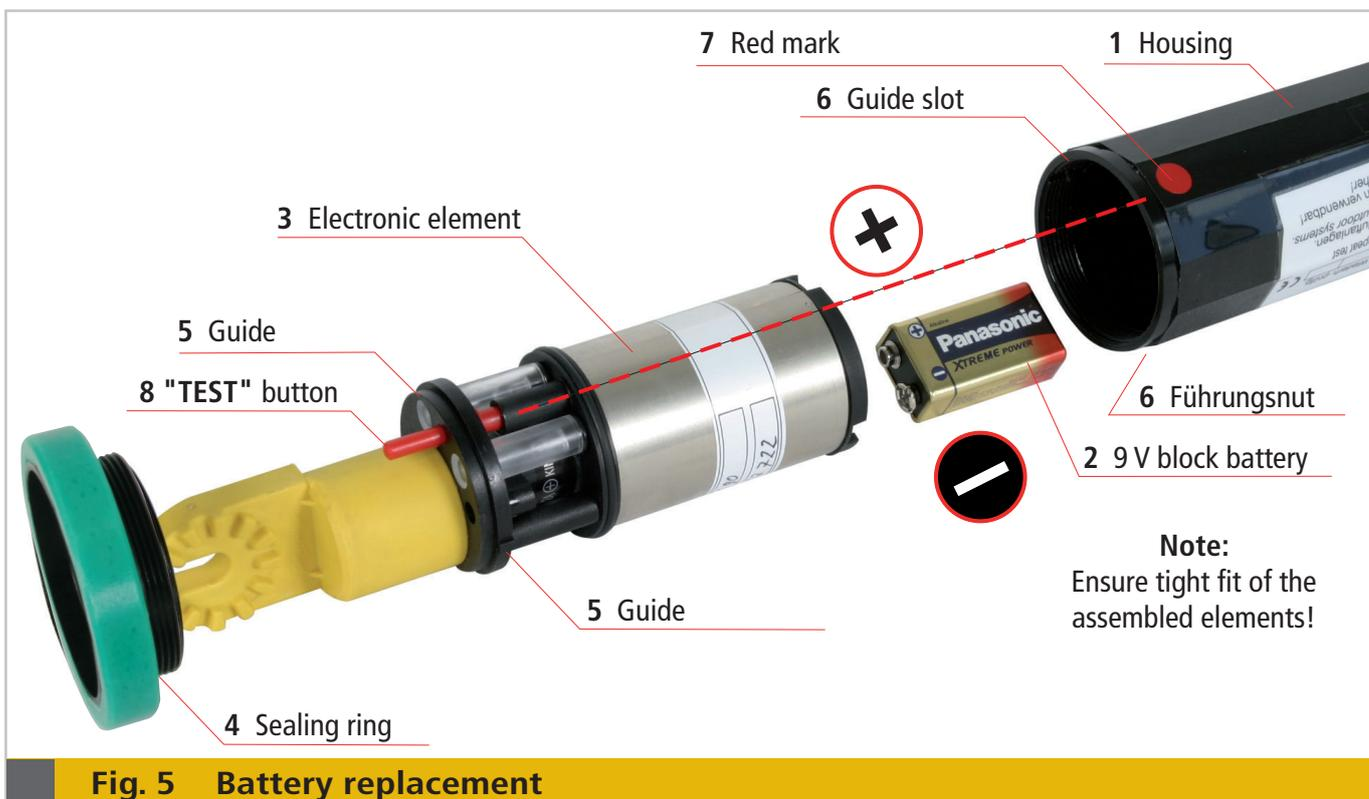

Fig. 5 Battery replacement
- 5.1 Open the housing (1) by turning the sealing ring (4) on the lower end of the ASP A 110 ... indicator anticlockwise (the insulating stick does not have to be removed) (see Fig. 5).
- 5.2 Pull the electronic element (3) out of the housing (see Fig. 5).
- 5.3 Replace the 9V block battery (2) in the upper end of the electronic element in the battery compartment by a new one (observe battery symbols) (see Fig. 5).
- 5.5 Reassemble the indicator in reverse order. When inserting the electronic element (3), ensure that the red "Test" button (8) and the red mark (7) are in line (see red dashed line in Fig. 5). Both guides (5) must engage with the guide slots (6). After inserting the electronic element (3), turn the sealing ring (4) clockwise to screw it to the housing (1) (see Fig. 5).